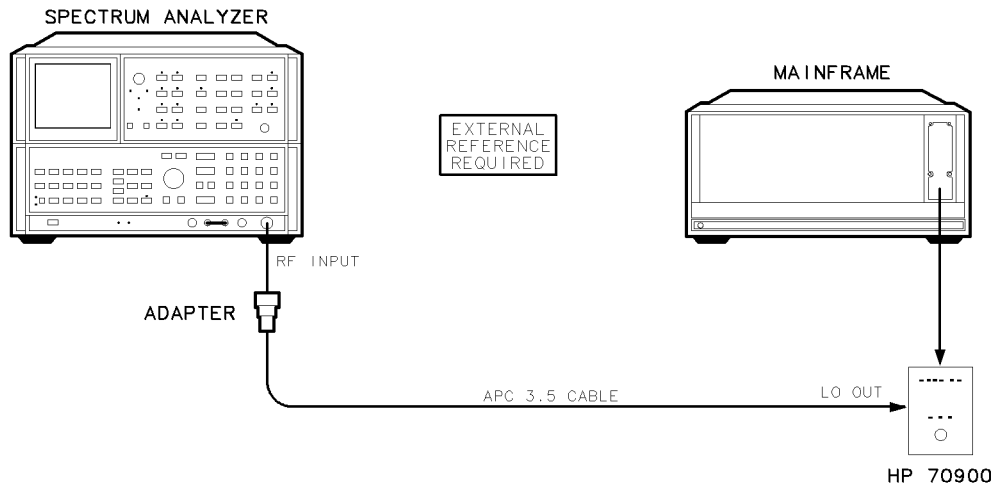

Figure 6-30. Equipment Setup for Adjustment 18. YTO Frequency Endpoints
1. Remove the HP 70900B local oscillator source's cover and connect the equipment as illustrated in Figure 6-30.